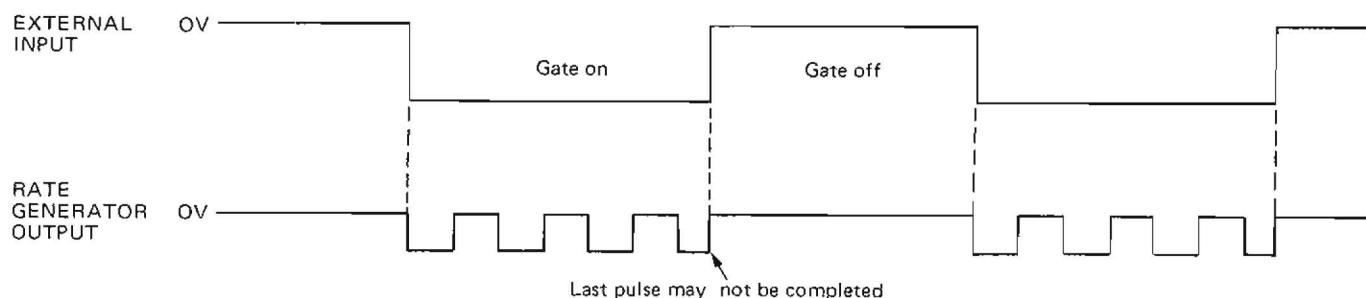

Figure 3-5. Rate Generator Output in External Gate Mode.
3-39 Set the NEG-POS-MAN switch (5) to POS and the EXT INPUT LEVEL control (4) to -1V. Vary the rate VERNIER (2). Note that the last pulse may be cut short by the gate turning off (see figure 3-5).